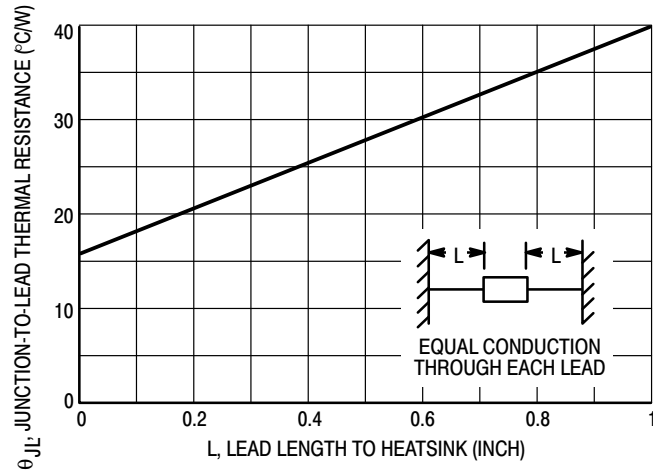
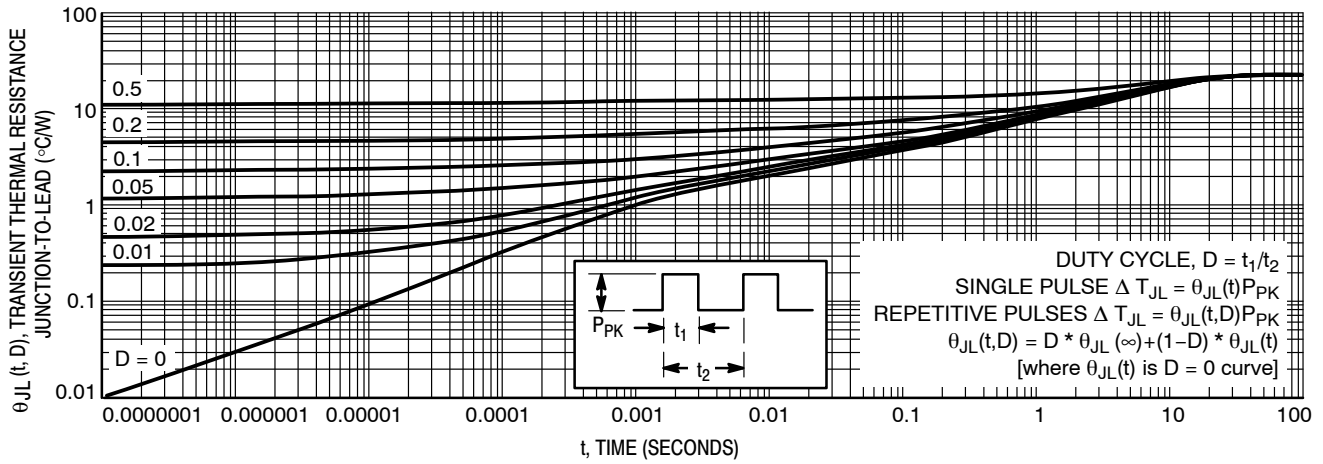
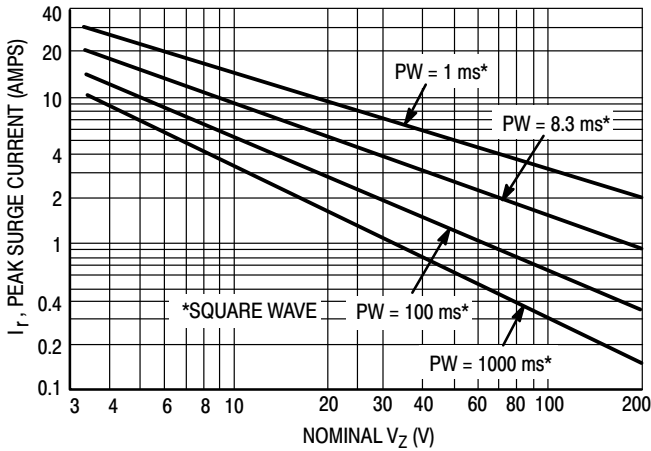
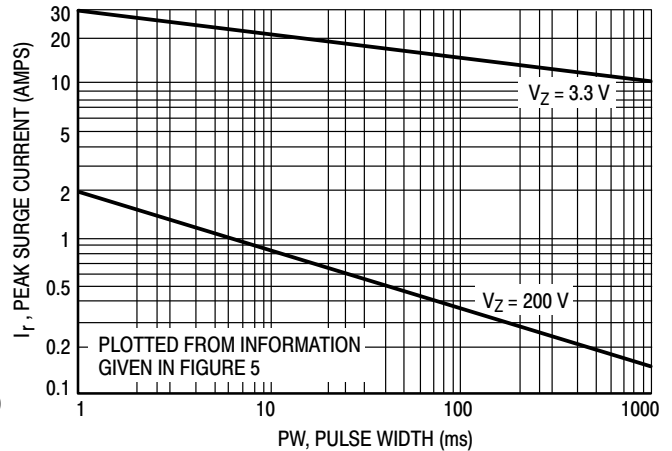

Figure 1. Typical Thermal Resistance
Figure 4. Typical Thermal Response
Figure 5. Maximum Non-Repetitive Surge Current
Figure 6. Peak Surge Current versus Pulse Width
- SURGE CURRENT (I_R):** Surge current is specified as the maximum allowable peak, non-recurrent square-wave current with a pulse width, PW, of 8.3 ms. The data given in Figure 5 may be used to find the maximum surge current for a square wave of any pulse width between 1 ms and 1000 ms by plotting the applicable points on logarithmic paper. Examples of this, using the 3.3 V and 200 V zener are shown in Figure 6. Mounting contact located as specified in Note 2 ($T_A = 25^\circ\text{C} + 8^\circ\text{C}, -2^\circ\text{C}$).
- SURGE CURRENT (I_P):** Surge current is specified as the maximum allowable peak, non-recurrent square-wave current with a pulse width, PW, of 8.3 ms. The data given in Figure 5 may be used to find the maximum surge current for a square wave of any pulse width between 1 ms and 1000 ms by plotting the applicable points on logarithmic paper. Examples of this, using the 3.3 V and 200 V zener are shown in Figure 6. Mounting contact located as specified in Note 7 (T_A = 25°C +8°C, -2°C).
ΔT_{JL} is the increase in junction temperature above the lead temperature and may be found from Figure 4 for a train of power pulses or from Figure 1 for dc power.
Data of Figure 4 should not be used to compute surge capability. Surge limitations are given in Figure 5. They are lower than would be expected by considering only junction temperature, as current crowding effects cause temperatures to be extremely high in small spots resulting in device degradation should the limits of Figure 5 be exceeded.